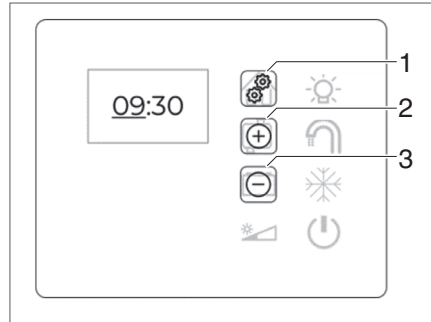

Fig. 61 Setting the time
- Press the home button (Fig. 61,1) down and hold it.
- Use the control buttons (Fig. 61,2) and (Fig. 61,3) to increase (+) or reduce (-) the hour display by one.
- Press the home button (Fig. 61,1).
- Use the control buttons (Fig. 61,2) and (Fig. 61,3) to increase (+) or reduce (-) the minute display by one.